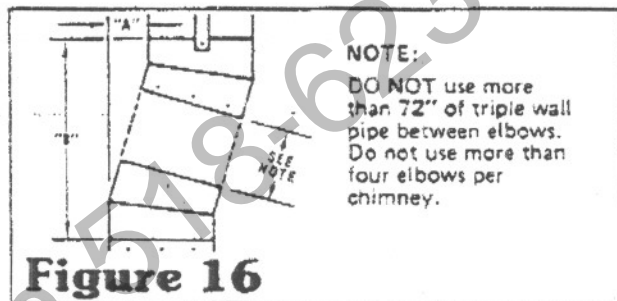

Figure 16
2. To achieve desired offset, you may install 18", 24", 36", or 48" lengths of triple-wall pipe between the elbows to a maximum length of 72 inches. (See Figure 16).